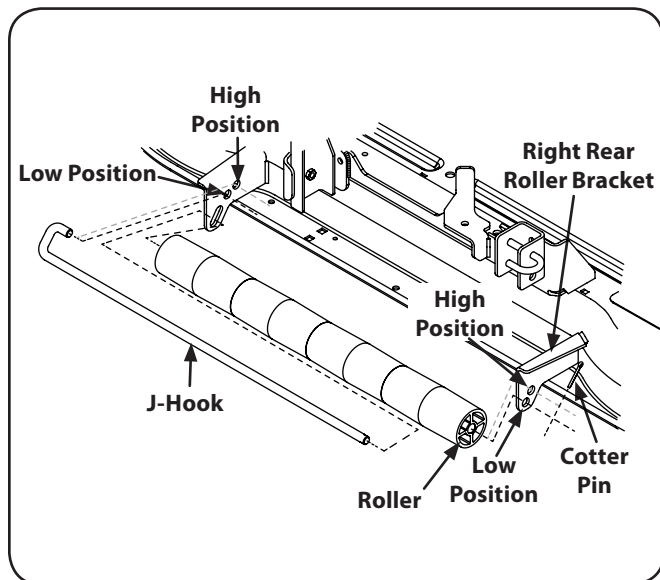

Figure 6-7
- Remove the cotter pin from the right end of the J-hook. See Figure 6-7.
- Slide the J-hook to the left and remove the roller as the shaft is fully withdrawn from the left rear roller bracket. See Figure 6-7.